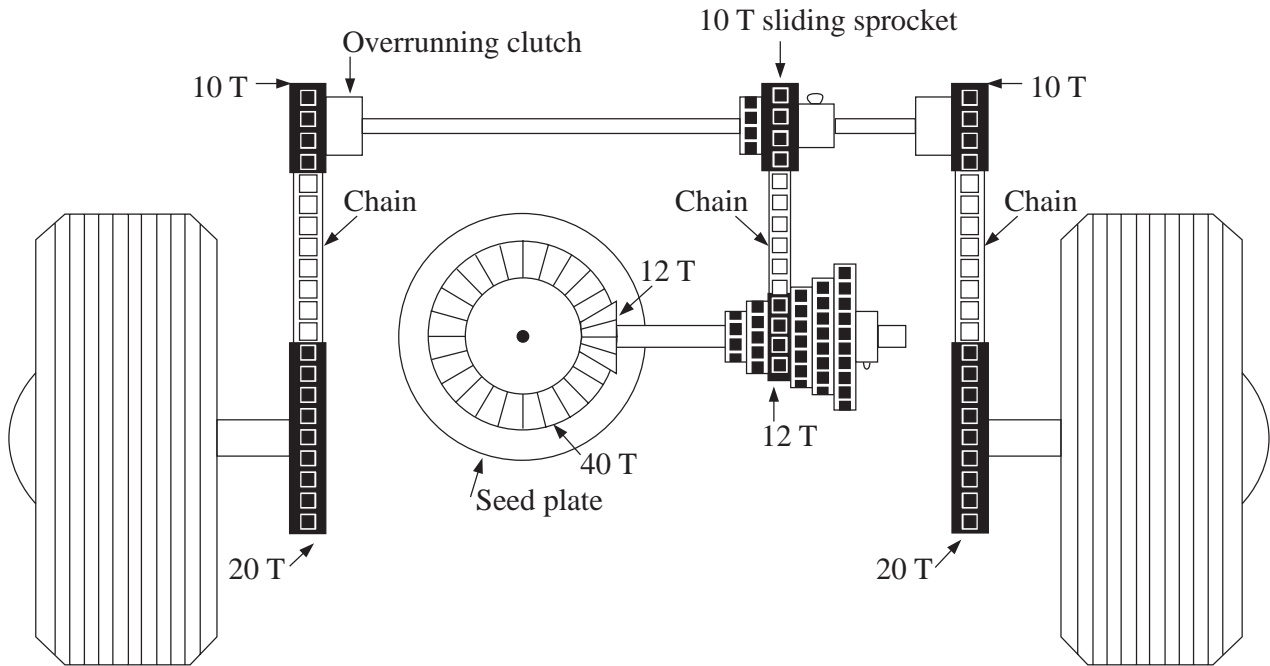

FIG. 14
- (a) Figure 14 shows the seed-plate drive mechanism in a combine seeder.